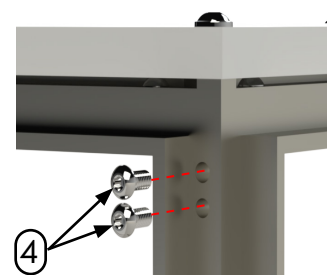

Figure 3
- Fasten screws into each upright corner using a drill and Torx bit (Fig. 3).